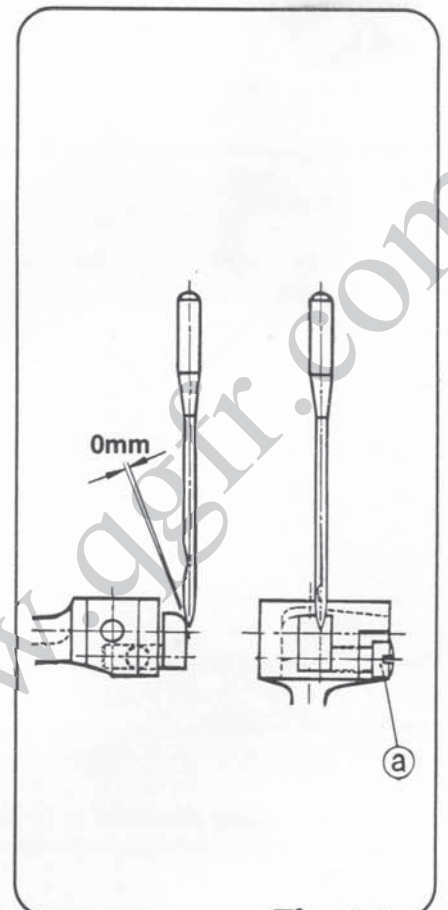

Fig. 11
When the stitch width is changed, the needle guide must be adjusted accordingly, as the clearance between the needle guide and the needle will change. Turn the pulley in the forward direction after loosening the screw ① of Fig.11 and adjust the clearance between the needle and needle guide to zero when the end of the looper comes to the side of the needle, as shown in (Fig.11) and tighten the screw ①.
- \* 导针在最前进时, 如图11所示, 导针对针的间隔必须终于0mm, 放松螺钉而调整。